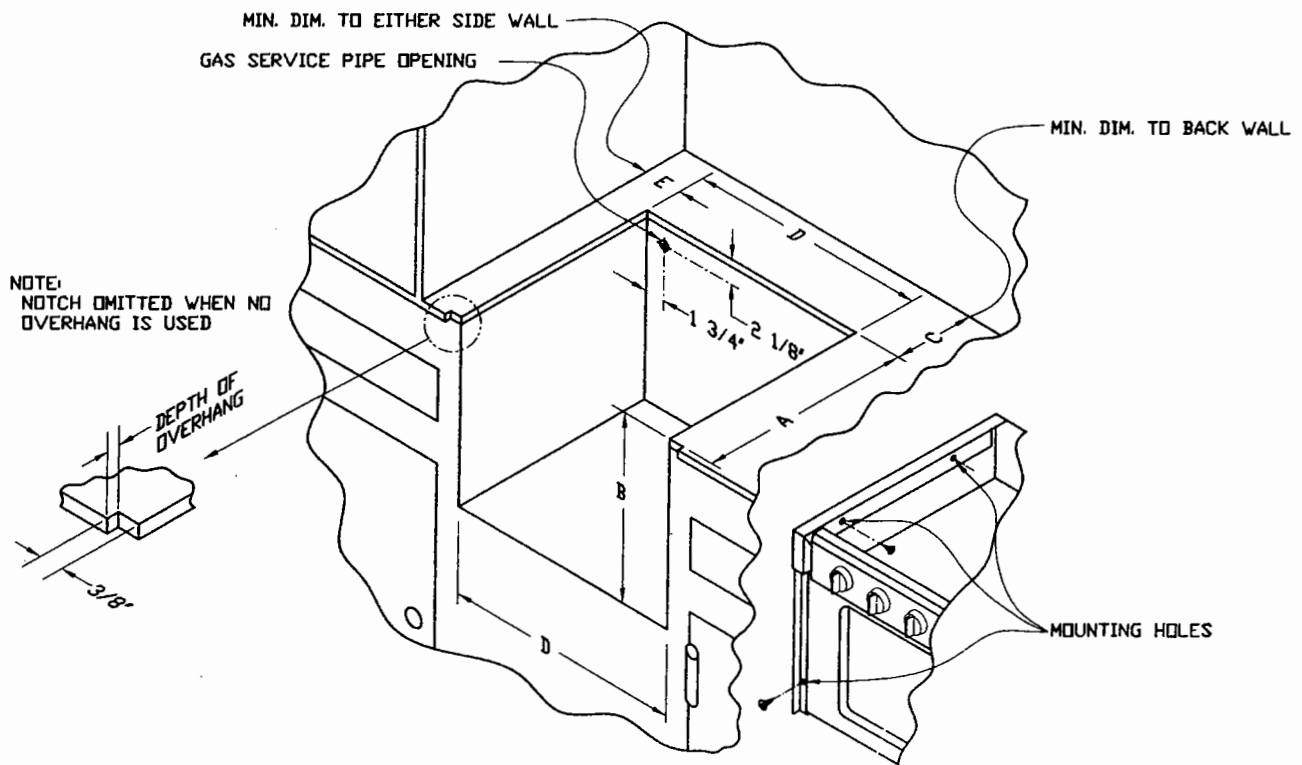

Figure 2
3. Cut-out dimensions illustrated in Figure 2 are as follows:
NOTE: Counter tops with an overhang must be notched 3/8 inch minimum as shown in Figure 2.